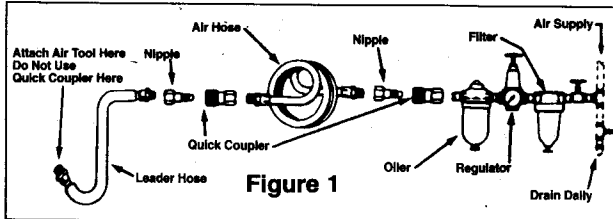

Figure 1
5. NEVER connect quick change couplings directly to the tool or air inlet. Use a leader hose (see Figure 1).